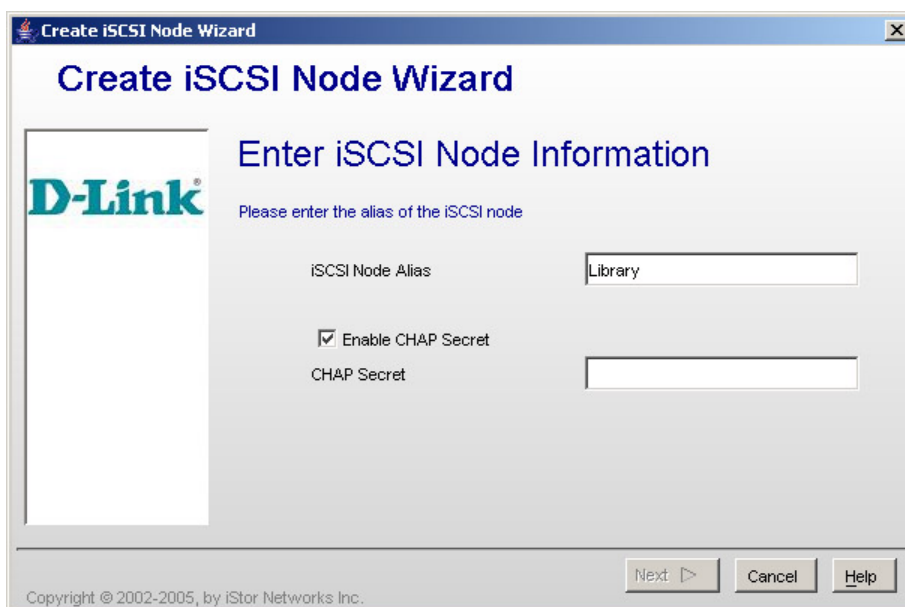

Figure 5-30 Create iSCSI Node Wizard - Enter iSCSI Node Information Screen with CHAP Secret Field Shown
- **Enable CHAP Secret** (*optional*). To use CHAP authentication when connecting to an iSCSI target, check this box to enable the CHAP secret. Then, in the **CHAP Secret** field (see Figure 5-30), type the password that will be used by the target to authenticate an initiator.